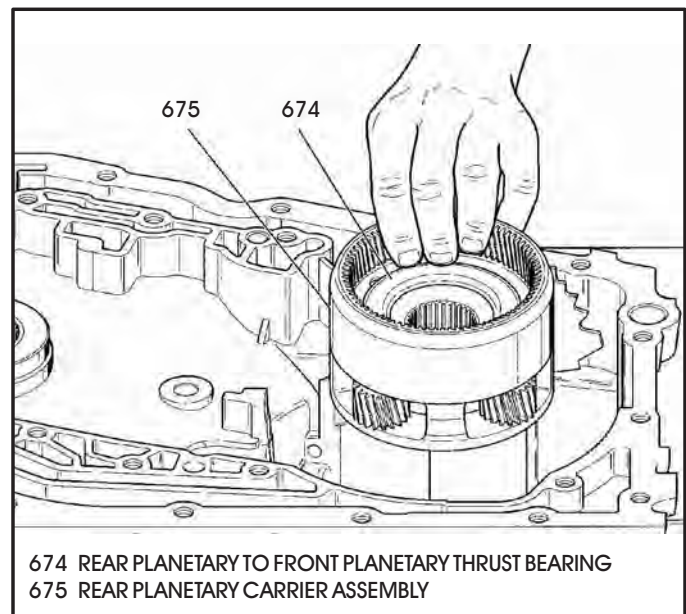

Figure 71
50. Remove the rear planetary carrier and thrust bearing, as shown in Figure 71.